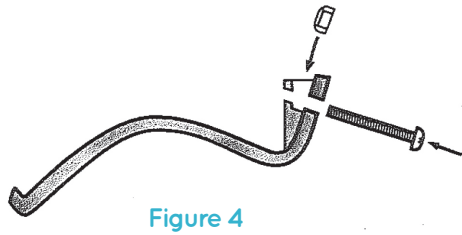
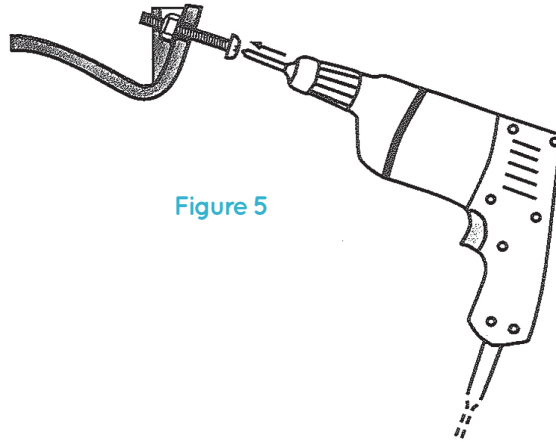

Figure 4
Figure 5
- b) Place the stop nut in the pocket as shown in figure 4. Start screw through outside hole, through stop nut contained in the pocket, and slightly beyond the interior hole (see figure 5).